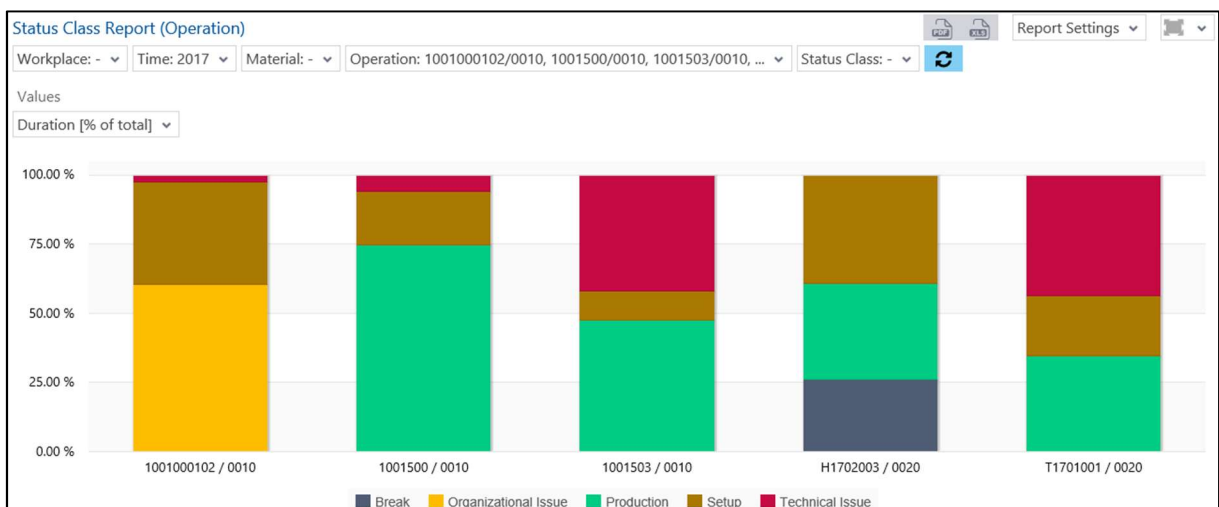

Fig. 81: Operating State Class Report (Operation) as a column chart
- Operating State Class Report (Operation) as a column chart (Fig. 81):